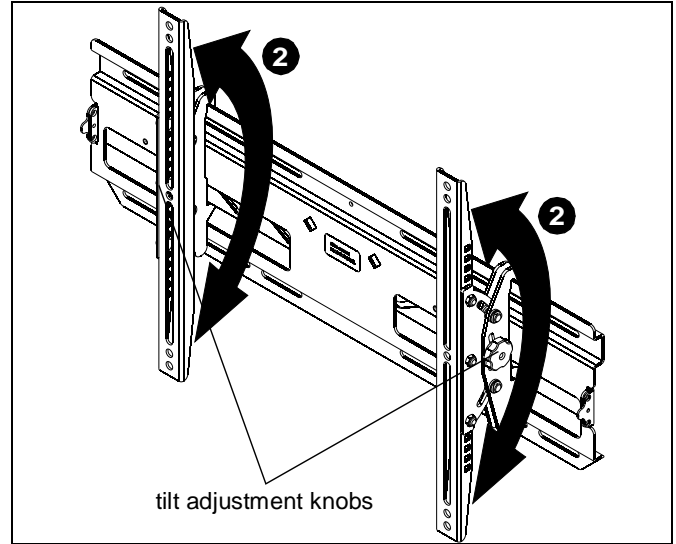

Figure 8
1. Adjust tilt tension adjustment knobs to desired tension. (See Figure 8)
2. Adjust tilt of display by pulling the top of display away from the wall until desired tilt position is reached. (See Figure 8)
3. Tighten tilt tension adjustment knobs to secure tilt position. (See Figure 8)